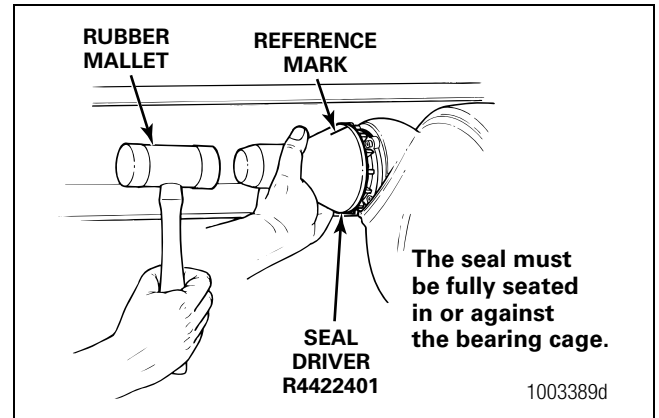

Figure 5.96
7. Use a rubber mallet to drive the seal into or against the bearing cage. The seal must fully seat into or against the bearing cage. Figure 5.96.